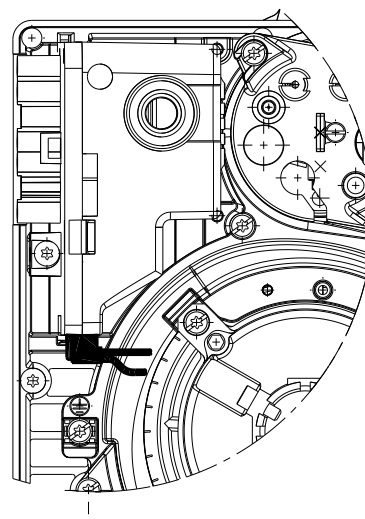

Fig. 24
- Check proper insertion of connection connectors according to the symbols shown on the bottom of the flame control box: make sure that the connectors are fully inserted by pushing them all the way in, each in its relevant position. All connectors must have the connection cables facing towards the inside of the burner (See Fig. 24).